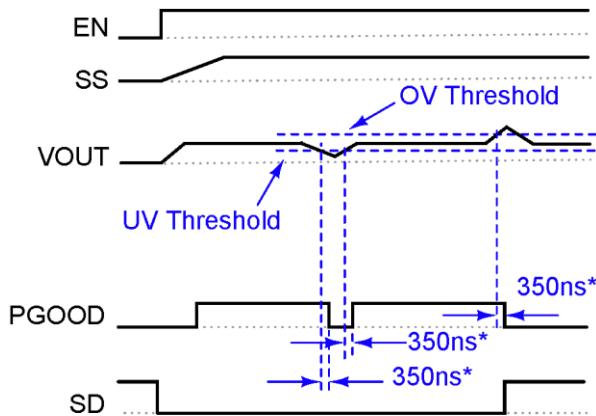

Figure 19(a). Under/Over Voltage Monitor
The IR3871 monitors the voltage at the FB node through a 350ns filter. If the FB voltage is below the under voltage threshold, UV# is set to LOW holding PGOOD to be LOW. If the FB voltage is above the over voltage threshold, OV# is set to LOW, the shutdown signal (SD) is set to HIGH, MOSFET gates are turned off, and PGOOD signal is pulled low. Toggling VCC or EN will allow the next start up. Figure 19 shows PGOOD status change when UV/OV is detected. The over voltage and under voltage thresholds can be found in the *Electrical Specification* section.